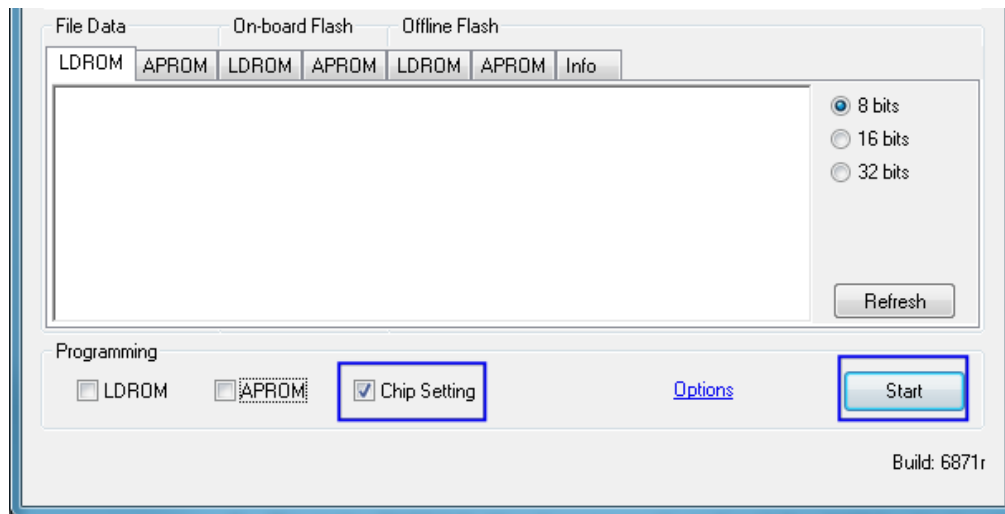

Figure 4-4 Start Programming
- Select “**Chip Setting**” and click “**Start**” button to program XOM configure settings and enable XOM, as shown in Figure 4-4.